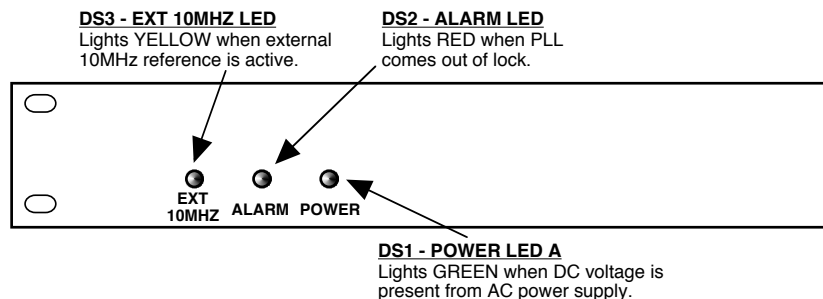

FIGURE 2.2 2116-182193 Front Panel Controls and Indicators
- 4.) Be sure DS1 (green, DC Power) is on and DS2 (red, Alarm) is off (Figure 2.2).
- 6.) If EXT is selected or AUTO is selected and there is a 10MHz, 0 dBm signal at J2, check that DS3 (yellow, Ext 10MHZ) is on (Figure 2.2).